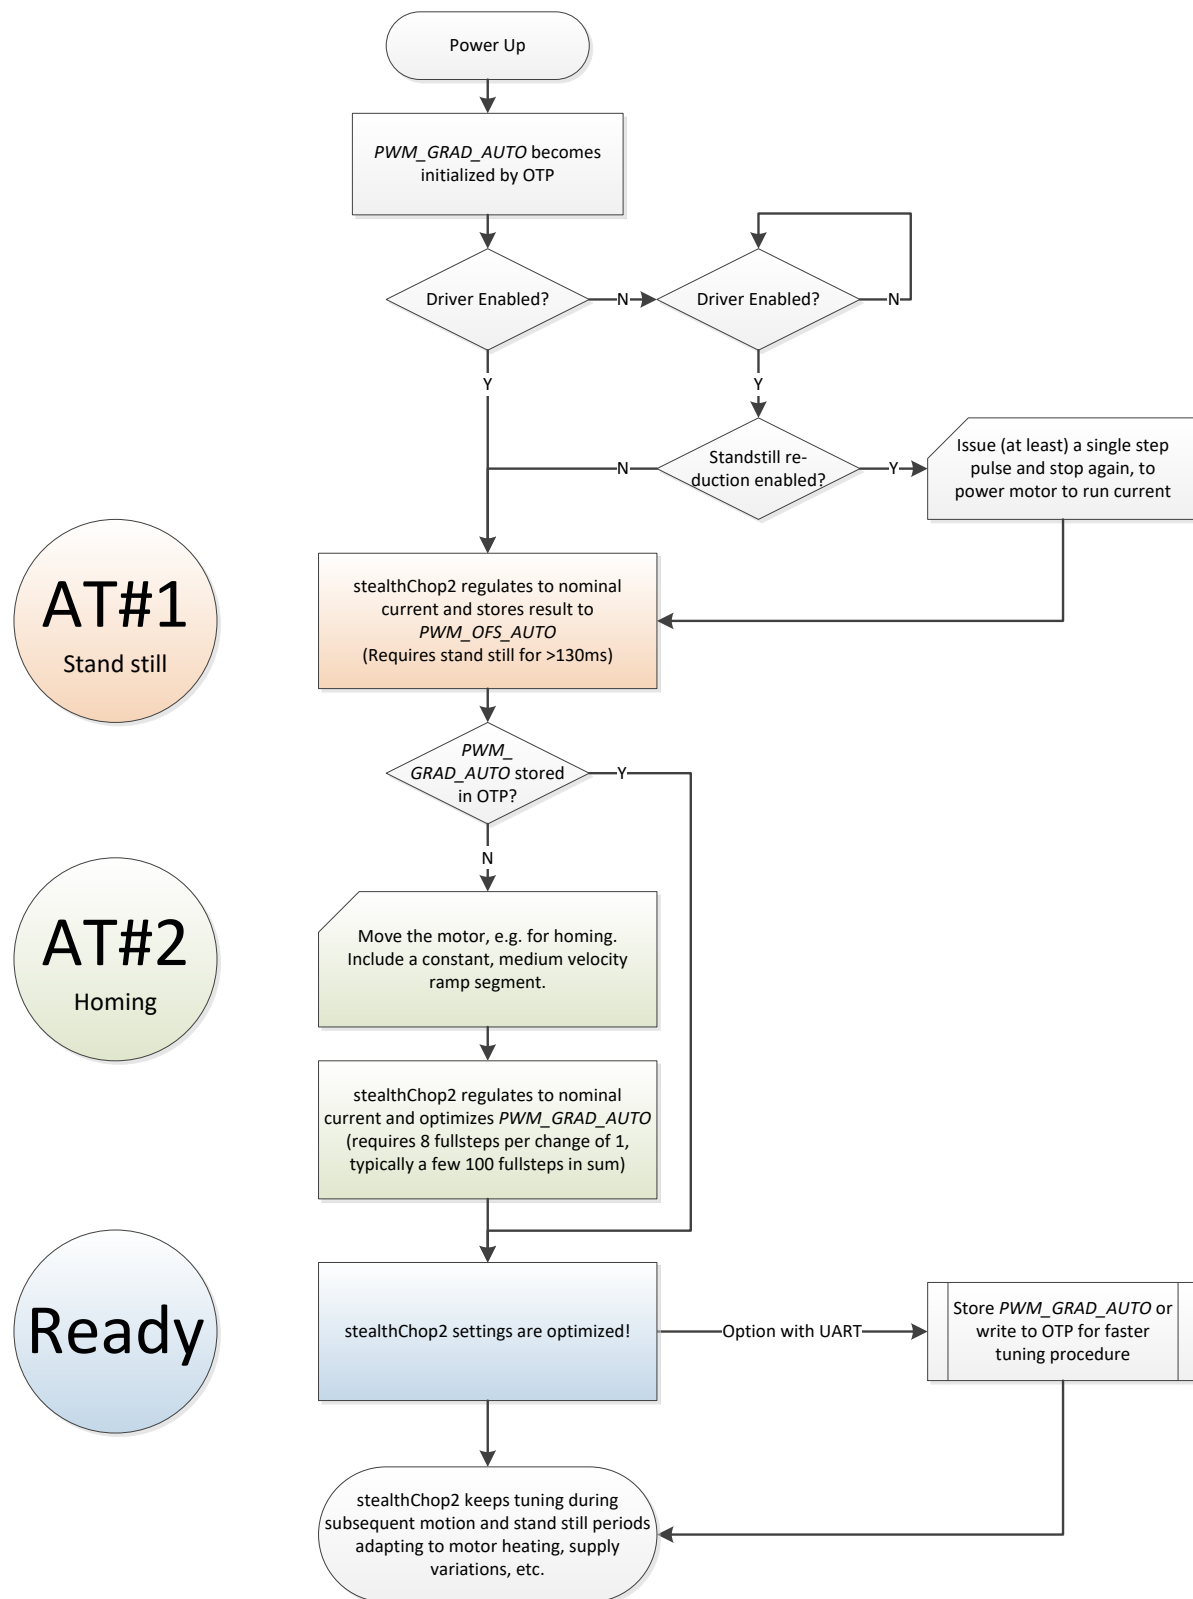

Figure 6.2 StealthChop2 automatic tuning procedure
StealthChop2 integrates an automatic tuning procedure (AT), which adapts the most important operating parameters to the motor automatically. This way, StealthChop2 allows high motor dynamics and supports powering down the motor to very low currents. Just two steps have to be respected by the motion controller for best results: Start with the motor in standstill but powered with nominal run current (AT#1). Move the motor at a medium velocity, e.g., as part of a homing procedure (AT#2). Figure 6.2 shows the tuning procedure.